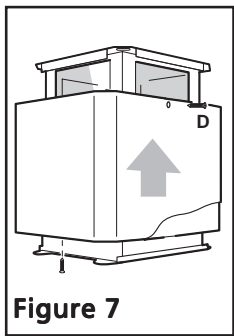
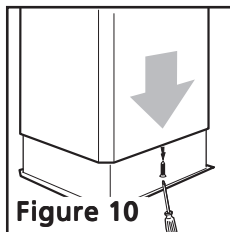

Figure 7
Figure 10
15. **Remove Chimney Cover's plastic protective film.** Reassemble and fasten all 3 covers together with one vertical screw. See Figure 7. Slide over chimney structure and secure with 2 screws near ceiling.
Raise chimney covers and fasten in place with 2 screws if not already fastened. Figure 7. Remove one vertical screw holding covers together. See Figure 10.